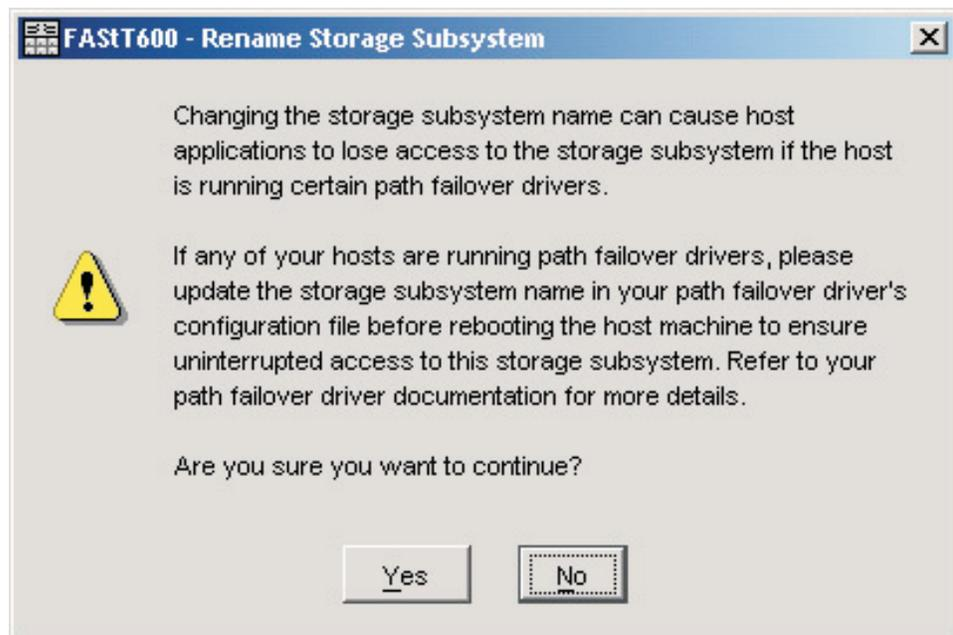

Figure 25. Rename Storage Subsystem window
1. In the Enterprise Management window, Right-click the storage subsystem and select **Rename**. The Rename Storage Subsystem window opens as shown in Figure 25.